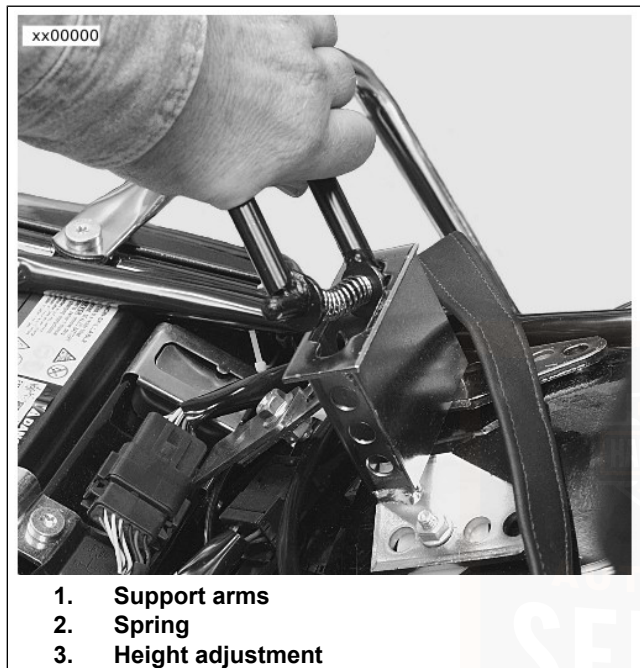

Figure 74. Rider Backrest: FLHTCUSE
2. See Figure 74. Using two hands, squeeze the spring loaded support arms together.